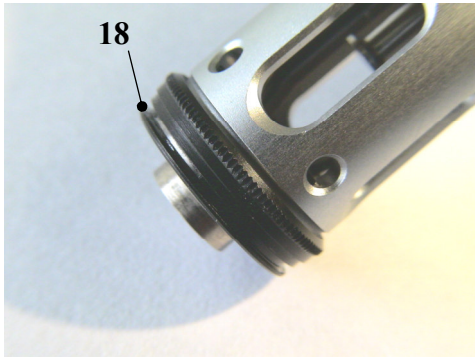

Fig. 17
- Screw on nut **(18)** and tighten up Fig. 17.